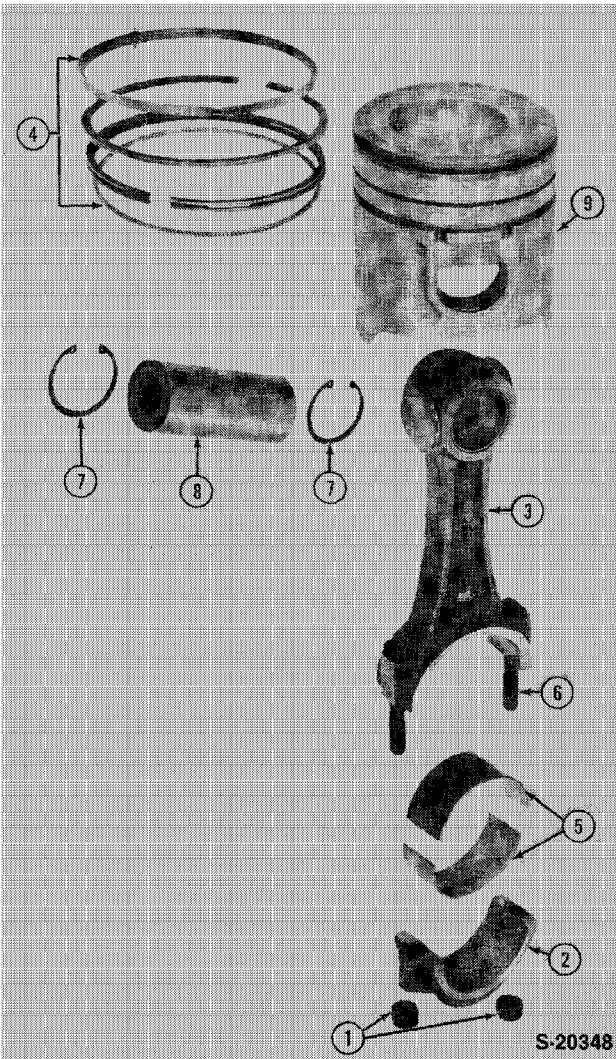

Figure 37
3. Identify each piston and rod for reassembly, Figure 37.